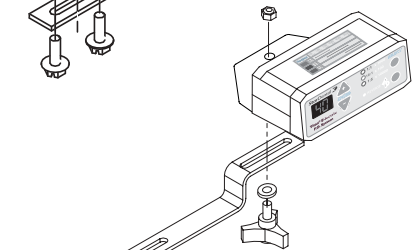

FIG 4.10
10. Secure control unit to mount with knob, see FIG 4.10.